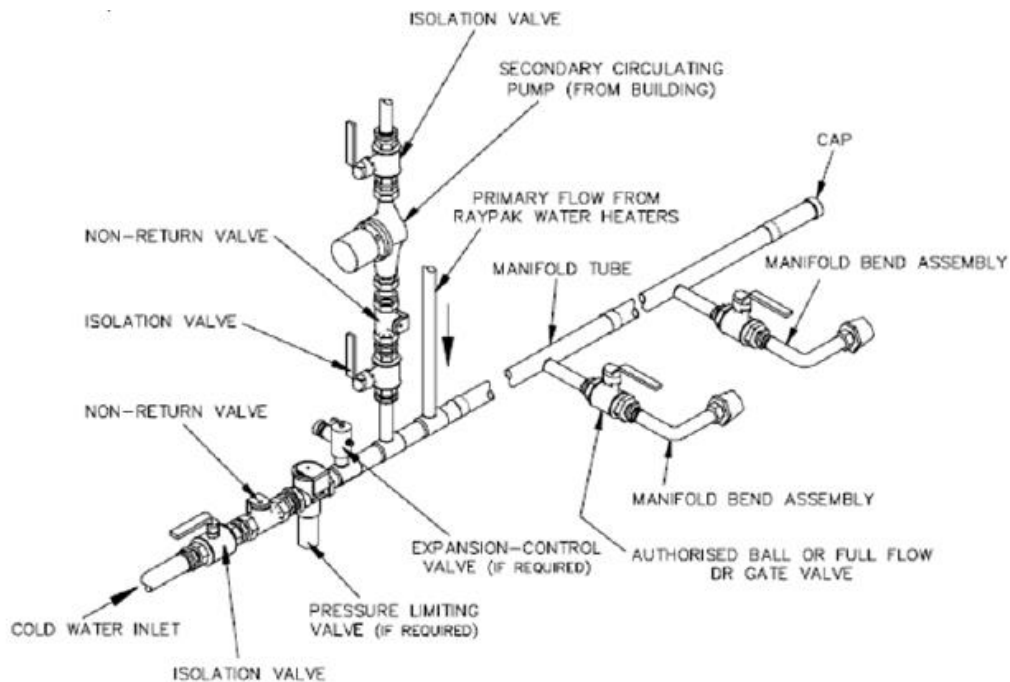

Fig 5: Storage Tank Inlet Manifold Arrangement
- The storage tanks MUST be installed according to “Equa-flow® principles” as described in the installation instructions supplied with the storage tanks and detailed on page 33 and Fig 5 to 9 on page 45.
- The water heaters should be installed according to “Equa-flow® principles” as detailed in Fig 5 to 9 on page 45.